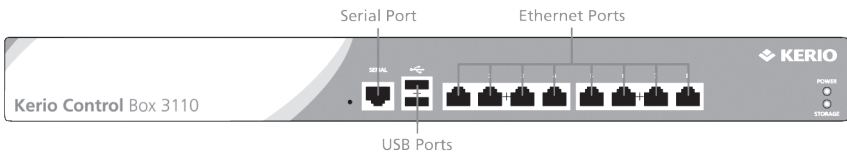

Figure 2 Kerio Control Box 3110 (front)
- Kerio Control Box 3000 Series — 1U rack mountable appliance — see figure 2.